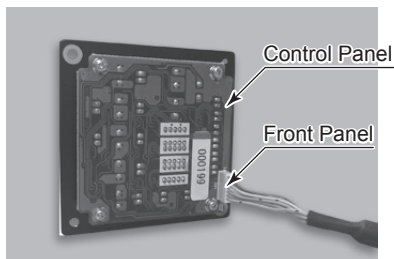

Fig. 7
- ④ Connect the connector of the Control Panel Extension Cord to the connector of the Control Panel (Fig. 7).